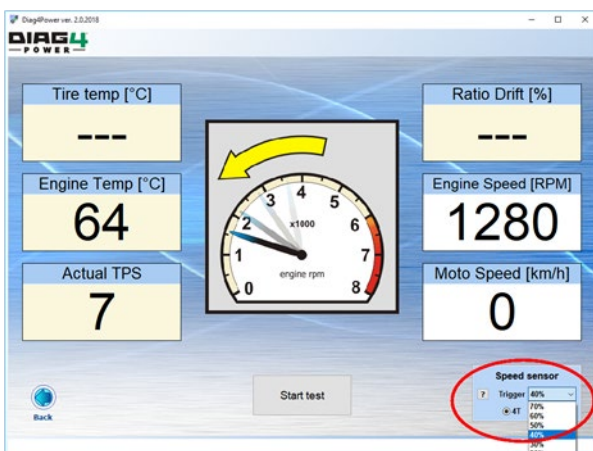

Fig. 23 – Sensitivity setting
- In case of problems with the measurement of the engine speed during measurement you can change the sensitivity setting to get the right speed measurement (see Fig. 23).